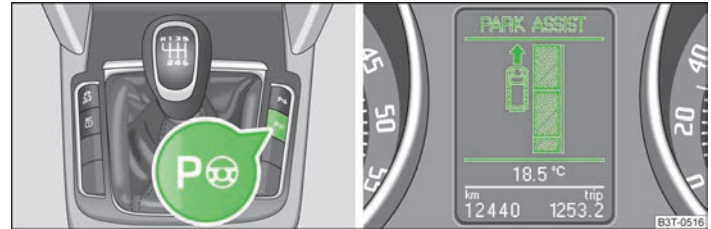

Fig. 121 Switch on display of the park assist in the information display/information display: Finding a suitable parking space
If the park assist system is switched on, a yellow indicator light illuminates up in the button » Fig. 121 on page 114.
- Press the button » Fig. 121.
- Drive past the parking space at up to maximum 30 km/h and a distance of 0.5 - 1.5 m » Fig. 121.
If the button is pressed at a speed greater than 30 km/h and less than 50 km/h, the message indicating that the speed for detecting the space has been exceeded will be shown on the display of the instrument cluster. If the speed drops below 30 km/h, the condition of the park assist system is automatically displayed in the display of the instrument cluster. When exceeding a speed of 50 km/h, it is necessary to activate the display again by pressing the button » Fig. 121.